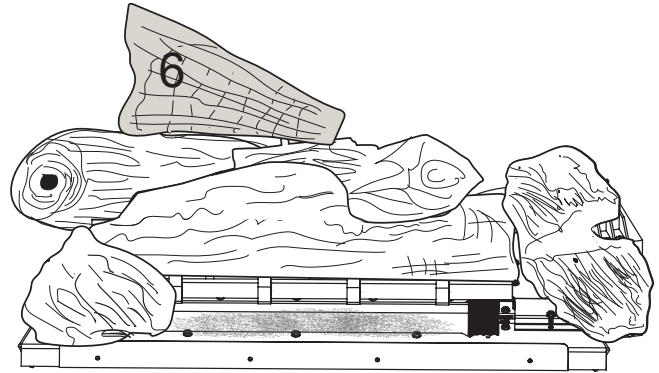

Figure 6.16 - Log #6 Placement
7. Hold log #6 with the flat end toward the bottom. Place log #6 by positioning the two pin locator holes on the bottom of the log over the two pins on log #4 and log #5. See Figure 6.16.